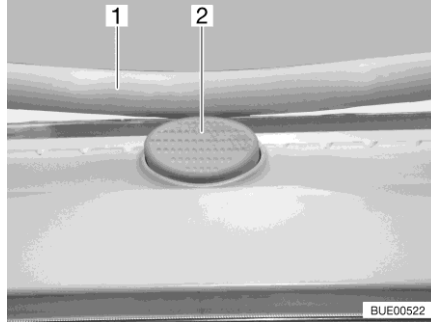

Fig. 22 Safety knob (Heki skylight)
- Press the safety knob (Fig. 22,2) and pull the bar (Fig. 22,1) down with both hands.
- Push the bar upwards with both hands until it is above the safety knob (Fig. 22,2).